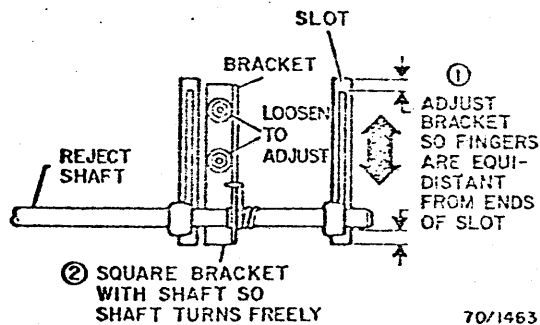

Fig. 3-107. Reject Shaft Bracket
1. Loosen bracket screws as shown (Fig. 3-107).